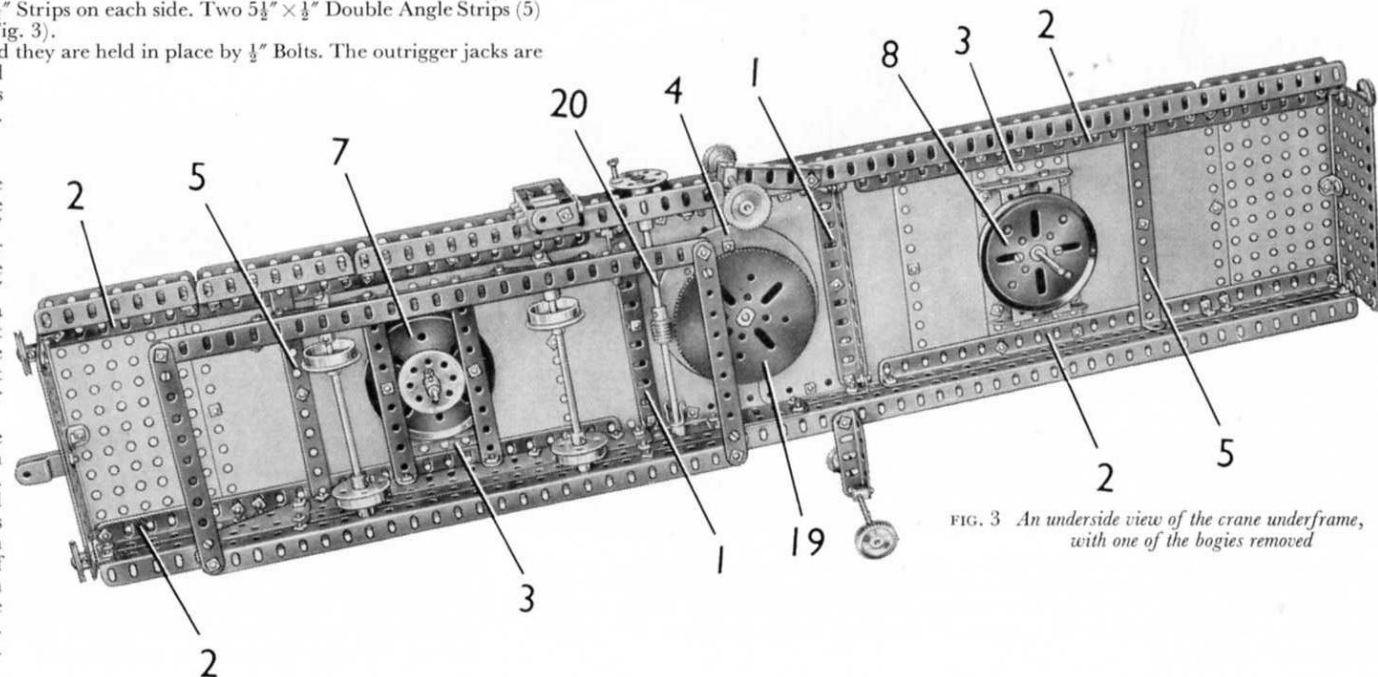

FIG. 3 An underside view of the crane underframe,
Crane Truck Underframe (Fig. 3)
Two $12\frac{1}{2}$ " Angle Girders (2) are fixed to each side-member and to these are bolted the Plates that fill in the top of the underframe. The top is formed by a $5\frac{1}{2}$ " \times $3\frac{1}{2}$ " Flat Plate at each end, two $5\frac{1}{2}$ " \times $2\frac{1}{2}$ " Flat Plates (3), ten $5\frac{1}{2}$ " \times $2\frac{1}{2}$ " Flexible Plates, and another $5\frac{1}{2}$ " \times $3\frac{1}{2}$ " Flat Plate bolted to the centre of the underframe. A 4" Circular Plate (4) is fixed to this Flat Plate. The Plates that fill in the top are connected along their outer edges by two $12\frac{1}{2}$ " Strips on each side. Two $5\frac{1}{2}$ " \times $\frac{1}{2}$ " Double Angle Strips (5) are fixed across the underframe as shown (Fig. 3).
A $3\frac{1}{2}$ " Rod is passed through the Strips (18) and is fixed in the boss of the Bush Wheel that is bolted to the Circular Plate attached to the cab. The Rod is passed freely through the Bush Wheel fixed to the Hub Disc, and through the centre of the 6" Circular Plate attached to the underframe. A $3\frac{1}{2}$ " Gear (19) (Fig. 3) is fixed to the Rod, but is spaced from the underframe by four $\frac{3}{4}$ " Washers and a Collar.
The cab can be rotated on the roller bearing by turning a Bush Wheel on a $6\frac{1}{2}$ " Rod (20) (Fig. 3). This Rod is held in place by a Collar and a small Fork Piece, and it carries a Worm that engages the $3\frac{1}{2}$ " Gear (19).